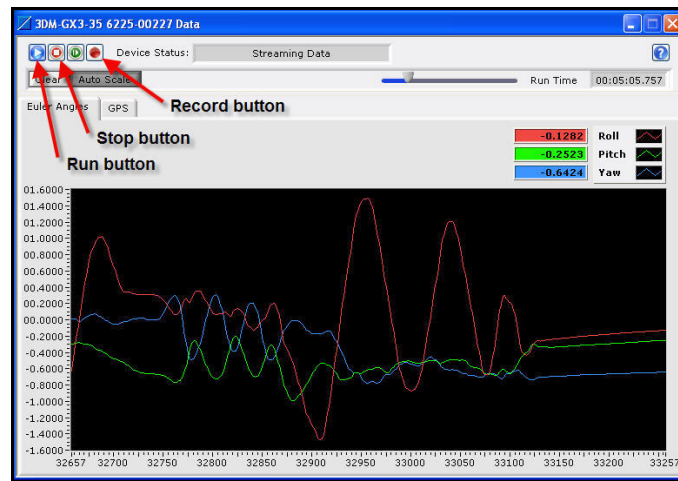

Figure 4 – Data Monitor window
- The 3DM-GX3[®] will begin sampling and display Euler Angles (in radians) at 100 Hz in a continuous graph as shown in *Figure 4*.